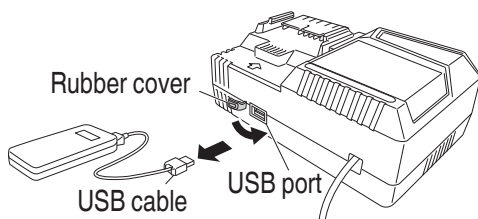

Fig. 51
- (3) When charging is completed
- Unplug the power cord from the electrical outlet. (Fig. 51)